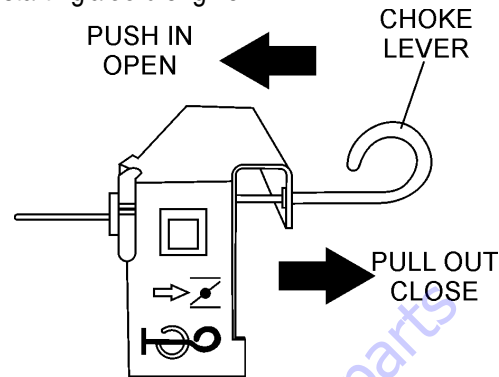

Figure 13. Choke Lever
2. Place the **choke lever** (Figure 13) in the "CLOSED" position if starting a **cold** engine.
3. Place the **choke lever** (Figure 13) in the "OPEN" position if starting a **warm engine** or the **temperature is warm**.
- If the engine has started, slowly return the choke lever (Figure 13) to the **"OPEN"** position. If the engine has not started repeat steps 1 through 5.